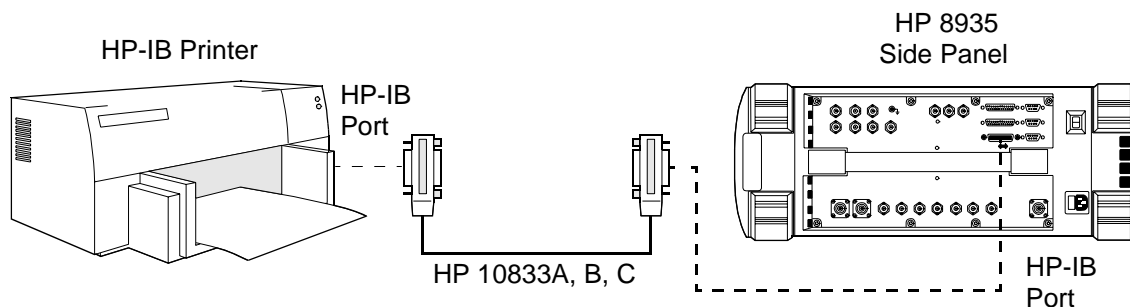

Figure 40 Test Set to an HP-IB Printer Connection
5. Connect your HP-IB printer to the Test Set's HP-IB port (see figure 40).